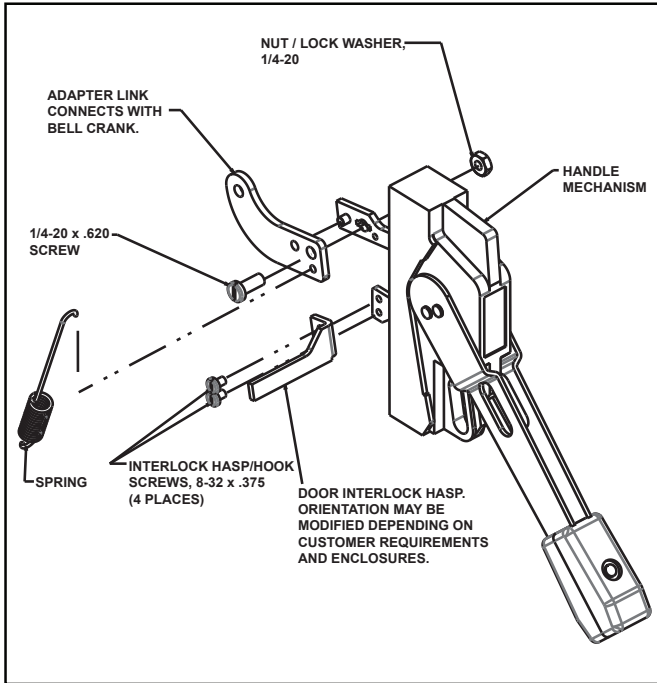

Fig. 1-2 Outer Handle Mechanism Assembly.
7. Mount door interlock hasp to handle using two #8-32 SEMS screws (see Fig. 1-2). Hasp orientation may be modified per customer requirements and enclosures.